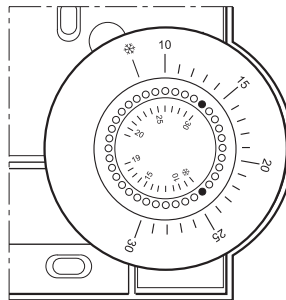

Fig. 14: Limiting the adjustment range
- ▶ Place the two small pins into the holes of the adjustment dials in order to limit the adjustment range (see Fig. 14). Orientate yourself on the basis of the inner scale: In Fig. 14, the pins are inserted so that the adjustment dial can only be adjusted in the range of 19 °C to frost protection \* (lower limit) and 19 °C to 30 °C (higher limit) around the value 19 °C.